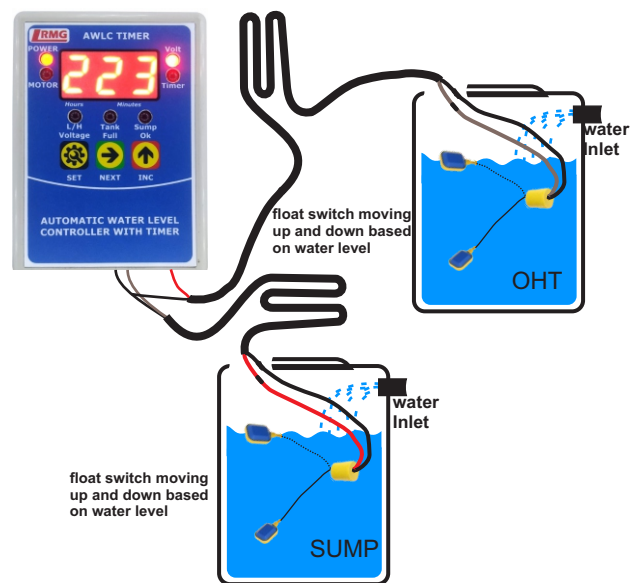

Figure4: water float switch connection
Step 5: Lay 2 core cable between timer and Overhead tank (OHT) and between timer and Sump. Immerse the Float Switches inside the Over Head Tank (OHT) and Sump. Connect sensor lines from timer to water float switch in sump OHT (refer figure 4)